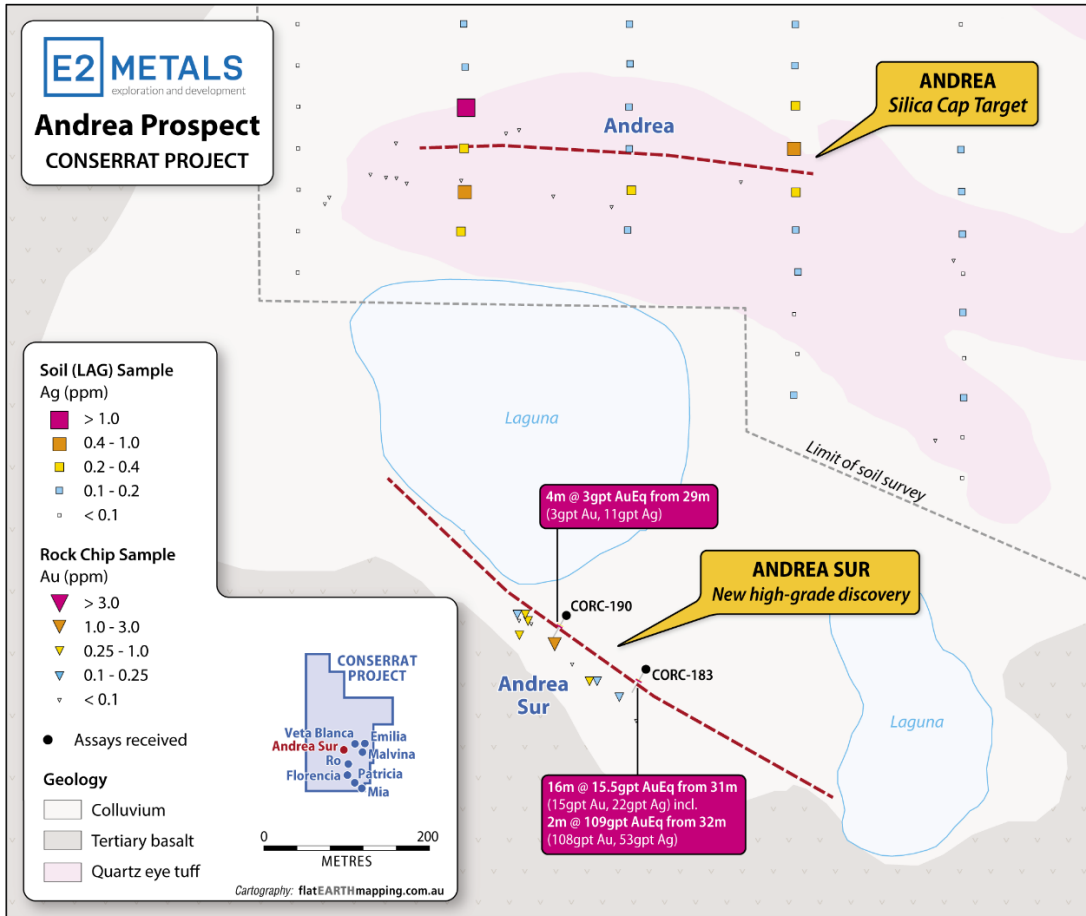

Figure 2: Andrea Sur drill hole location plan
Gold and silver assay results have been received for 2 scout Reverse Circulation (RC) holes totaling 129m (see Figure 2 & Table 1). Drill samples were submitted to Alex Stewart in Perito Moreno, Santa Cruz and analysed for gold and silver via Fire Assay.
The discovery is also located 500m south of the **Andrea Silica Cap** target which is host to silica alteration typical of the upper levels of an epithermal vein system. The alteration cap is coincident to a silver soil anomaly with maximum values of 1.3gpt Ag and measured dimensions of 600m by 150m (see Figure 2). Drilling of similar targets elsewhere in the Deseado Massif has led to significant blind discoveries (e.g., Silica Cap, Cerro Negro).